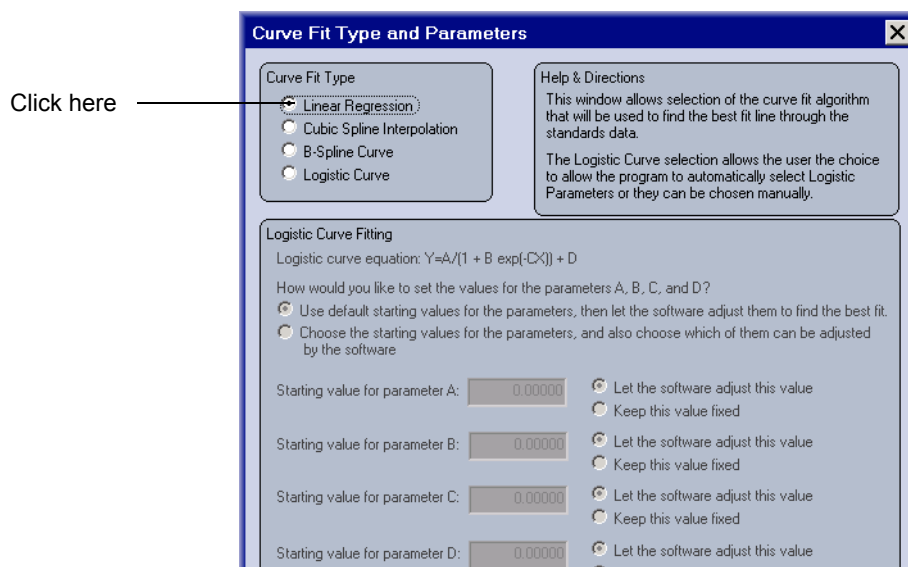

Figure 2-10 Curve Fit Type and Parameters Window
- b. In the *Curve Fit Type and Parameters* window (Figure 2-10) select Linear Regression.